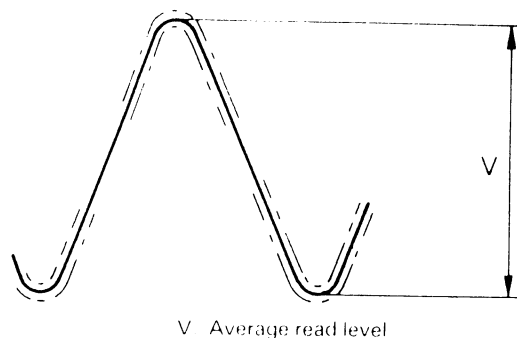

Fig. 304
5. Write one cycle of a 2F signal and measure the average read level. (See Fig. 304)